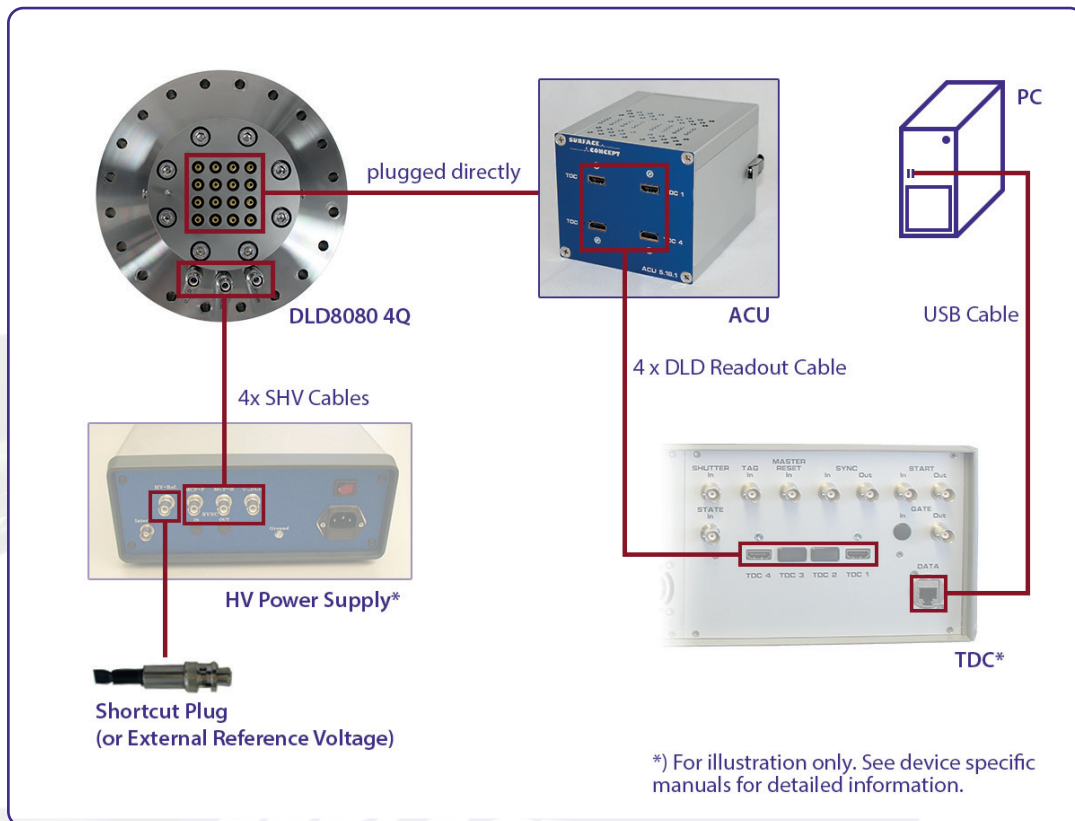

Figure 2: Connection scheme of the delayline detector and readout package.
- The general connection scheme of the delayline detector including its readout package is shown in **Figure 2**.